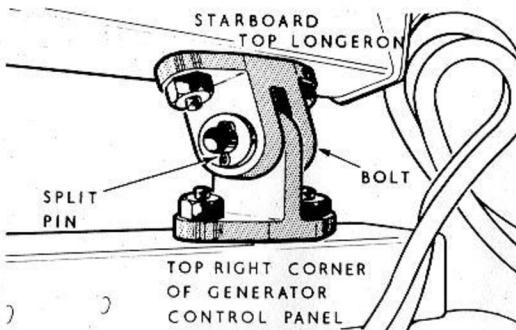

FIG.2 GENERATOR CONTROL
- (1) Render the aircraft electrically safe, as described in Group A.1 of this chapter.
- (2) Remove the radio access door.
- (3) Disconnect cable assembly F49 from the plug located at the top of the supply panel. Seal off the plug and socket with an approved cap and cover.
- (4) Disconnect cable assemblies C37, C38, F52 and C5 from the differential cut-outs and the battery relay mounted on the control panel. Remove any straps and clips securing these cable assemblies, insulate the bare cable ends and stow the assemblies away from the panel.
- (5) Disengage the four Dzus fasteners securing the bottom of the panel and, with a second person supporting the panel, withdraw the two top hinge pins by removing the split-pins and washers (fig. 2).
- (6) Lower the panel and remove it from the aircraft, complete with cable assembly F49.